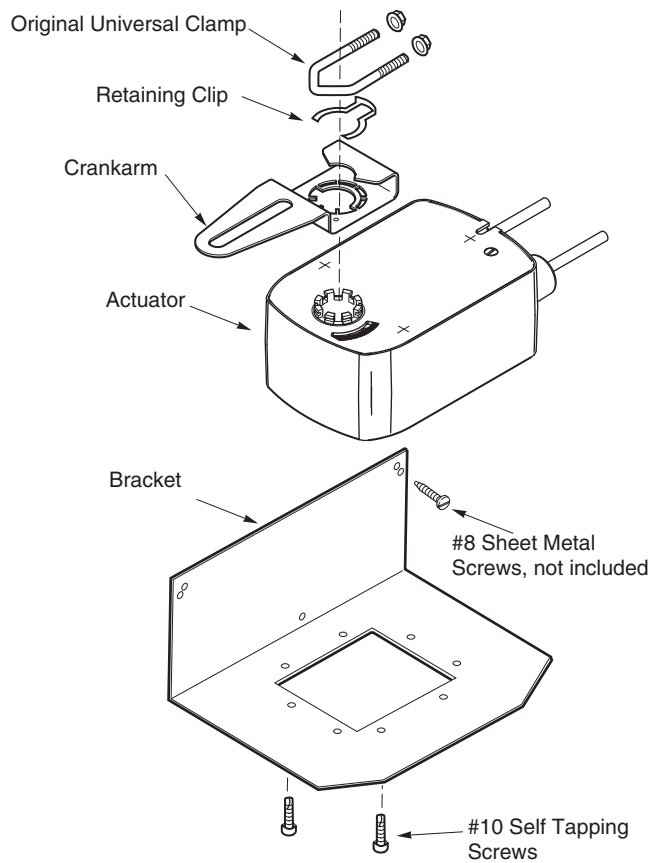

Figure-6 Mounting AM-715.
1. Locate the pre-drilled mounting holes on the actuator label that are covered by a white “+” sign. See Figure-6.
3. Use the #10 self-tapping screws to secure the bracket to the actuator, see Figure-6.
6. Secure the crankarm in place using the retaining clip provided. See Figure-6. Place the retaining clip inside the crankarm, making sure to align the retaining clip with the grooves on the actuator mounting. Push the retaining clip with finger pressure until it clicks into place.